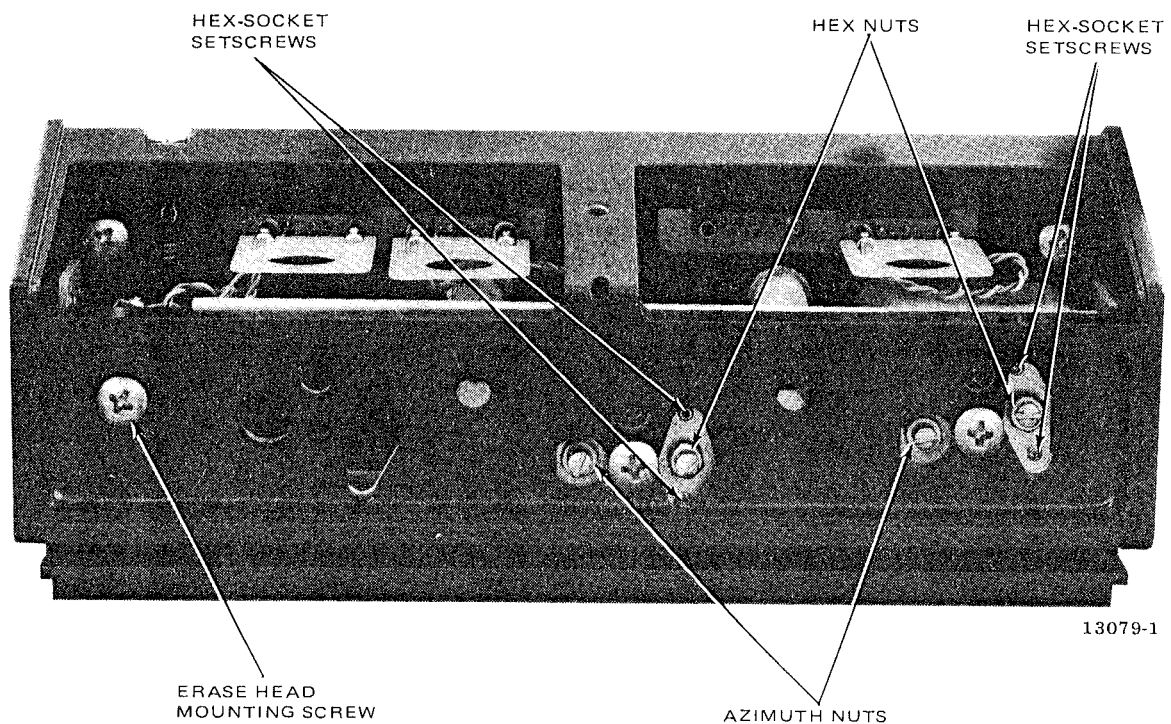

Figure 5-10. Head Height Adjustments
3. Loosen the hex nut (Figure 5-10) approximately 1/4 turn.
4. Turn the two hex-socket setscrews (see Figure 5-10) clockwise the same number of turns, until the head laminations barely appear at the tape bottom edge. Keep relaxing
Erase head height is adjusted with shims (0.010, 0.002, 0.003, and 0.005 inch thick, Ampex Part Nos. 4350025-01, 4350025-02, 4350025-03, and 4350025-04 respectively). To change shims, the head must be removed by removing one cross-head screw (Figure 5-10).